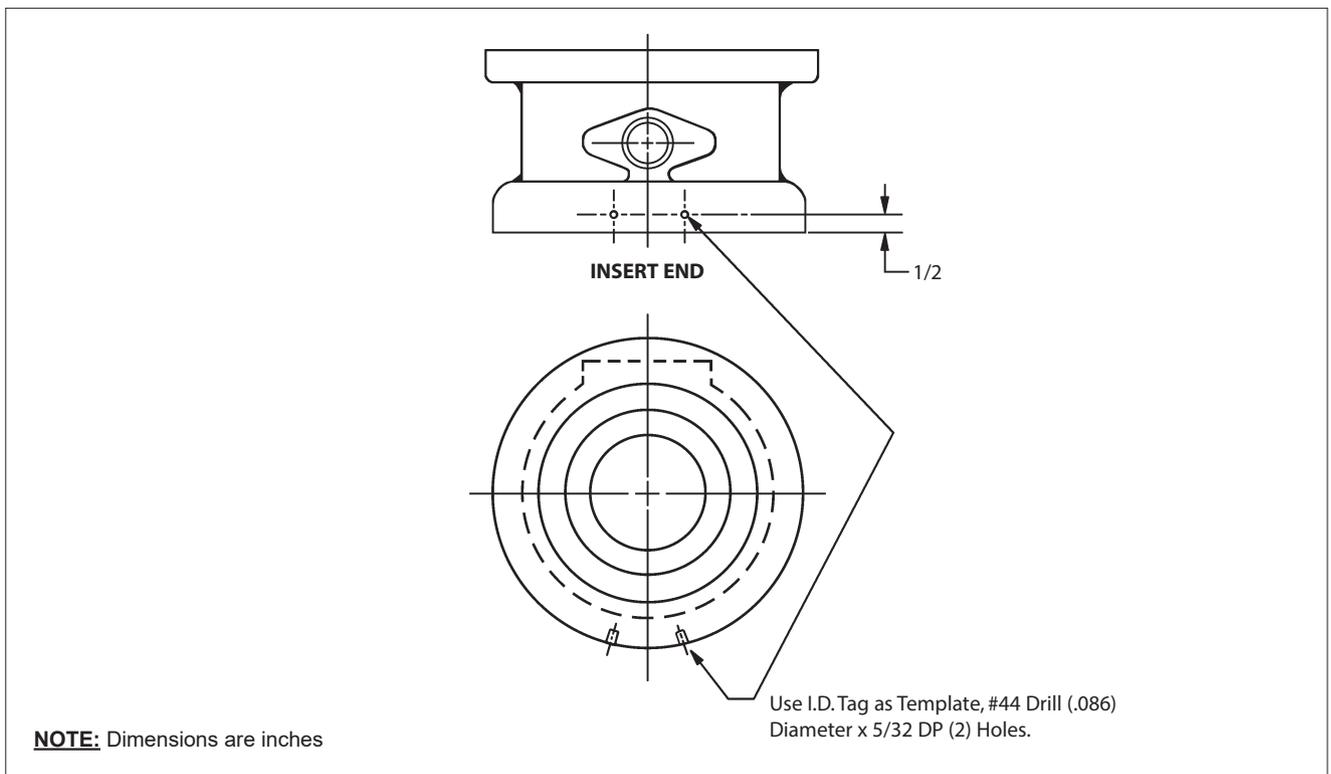

Figure 3.
1. Mount identification tag to insert flange by drilling as shown in (**Figure 3**) and driving in pins. One extra pin is provided.